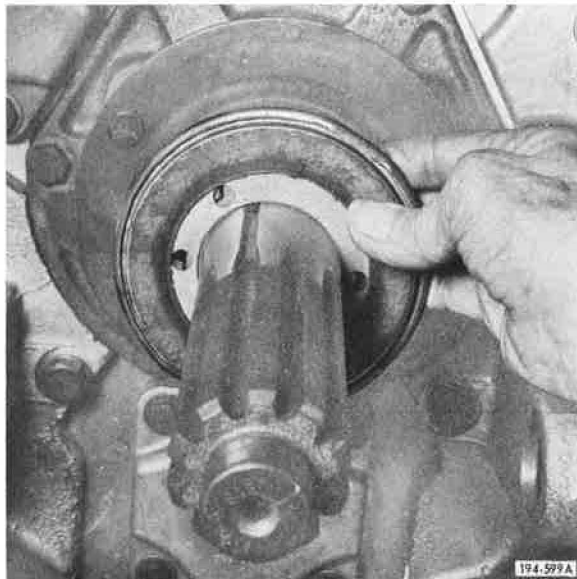

Figure 12. Removing Clutch Brake
7. Remove clutch brake from input shaft. See Figure 12.